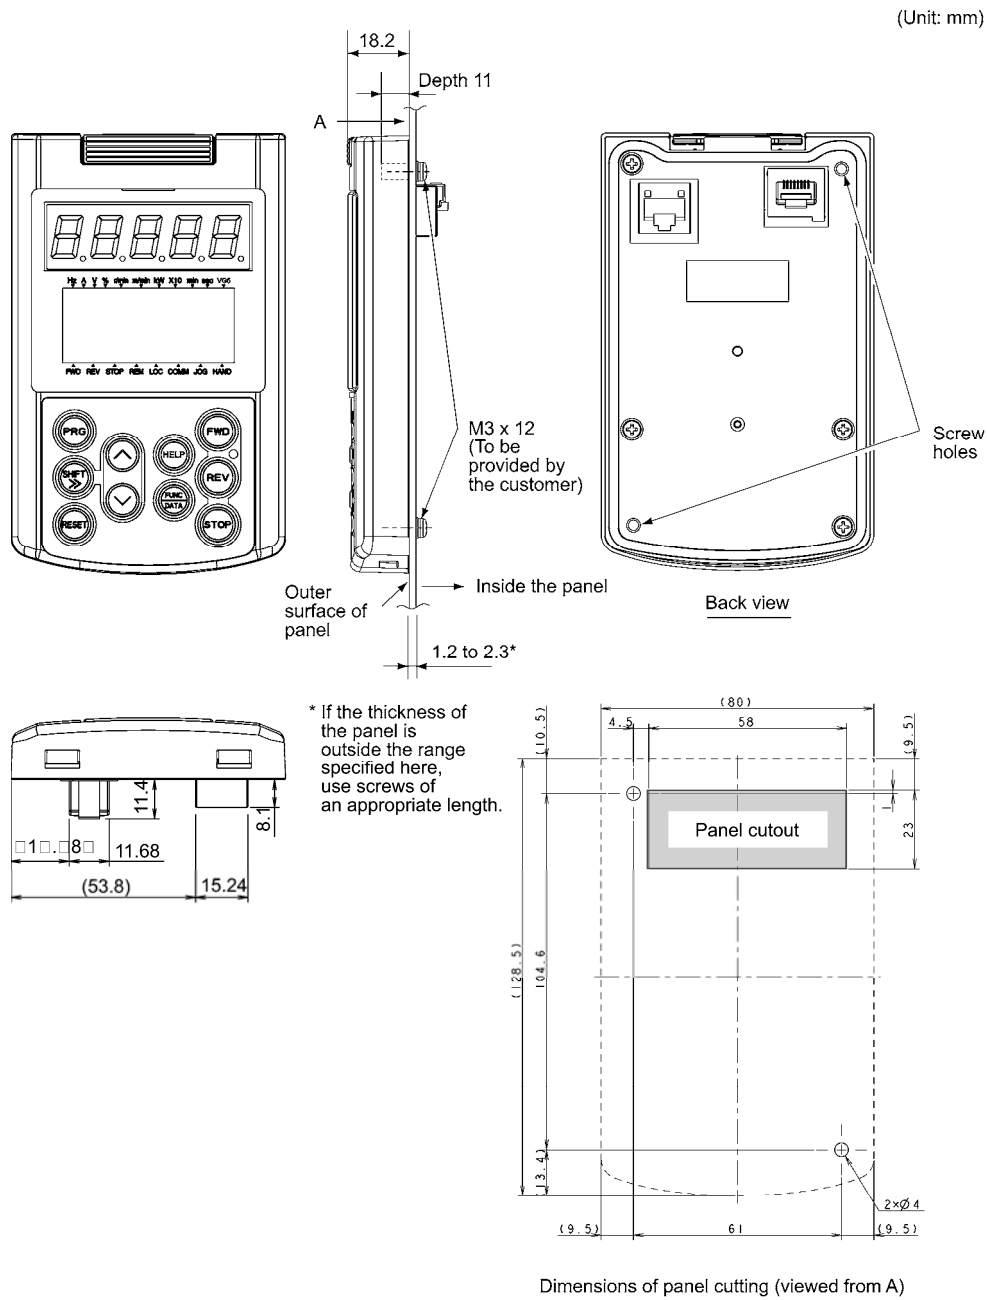

Figure 3.3-24 Location of Screw Holes and Dimension of Panel Cutout
- (1) Cut the panel out for a single square area and perforate two screw holes on the panel wall as shown in Figure 3.3-24.